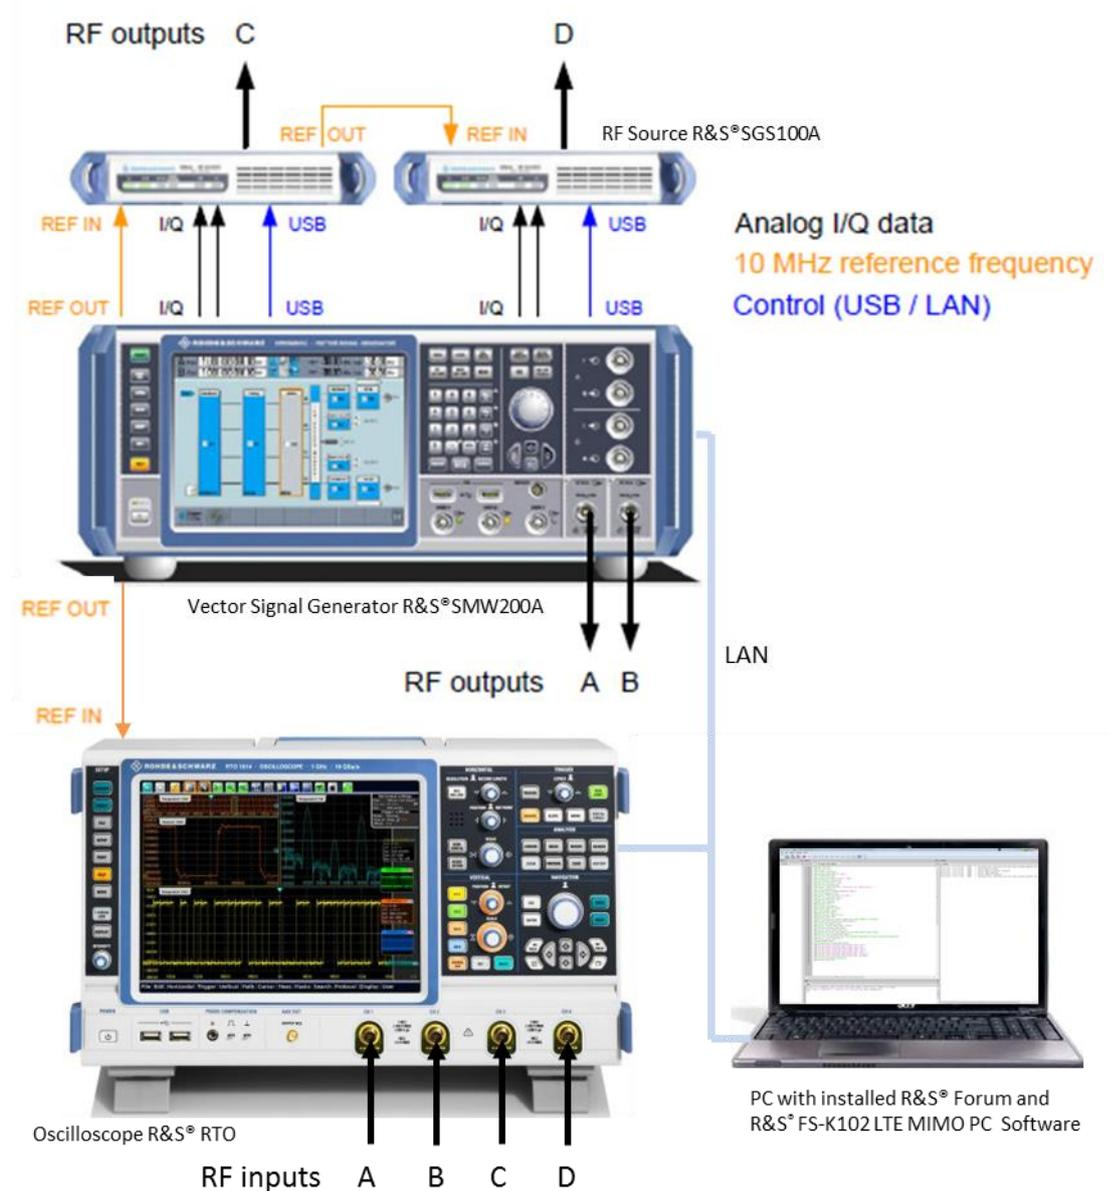

Figure 51: Setup with SMW, SGS and RTO for 4x4 MIMO demonstration
For demonstrating the, in Example 7 described 4x4 MIMO Scenario, it is necessary to increase the number of available SMW RF outputs beyond two. This can be done by connecting external RF sources such as the R&S® SGS or the R&S®SMBV100A to the SMW. These instruments are upconverting the SMW's analog I/Q baseband signals to the RF. The external SGS can be controlled directly from the SMW via LAN or USB. Instead of four signal/spectrum analyzers one RTO oscilloscope with four channels can be used. The RTO is also supported by the R&S® FS-K102 LTE MIMO PC software. An example setup with two SGS and one RTO is shown in Figure 51.
- Connect the cables for analog I/Q (the analog I/Q output signals of the SMW are connected to the analog I/Q inputs of the SGS: I → I, Q → Q), reference frequency, and control as shown in Figure 51 above.